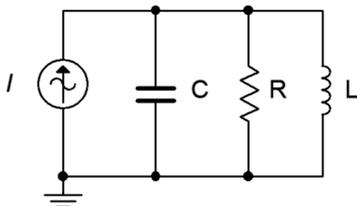

Figure 3.23
40. Determine a value for L such  $|X_C| = |X_L|$  for the circuit shown in Figure 3.23. The source frequency is 22 kHz,  $R = 18\ \text{k}\Omega$  and  $C = 5\ \text{nF}$ .
45. Assume you are troubleshooting a circuit like the one shown in Figure 3.23.  $I$  is a 10 mA peak sine at 2 kHz,  $R = 390\ \Omega$ ,  $C = 200\ \text{nF}$  and  $L = 25\ \text{mH}$ . The measured resistor voltage is a little under 2.5 volts. What is the likely culprit?
46. Given the circuit shown in Figure 3.23, find the values for  $C$  and  $L$  if the source is a sine wave at 1 kHz,  $R = 4\ \text{k}\Omega$ ,  $i_{\text{Source}} = 3\ \text{mA}$ ,  $i_R = 2\ \text{mA}$ ,  $i_L = 5\ \text{mA}$ ,
54. Following the idea presented in the previous problem, investigate the impedance as a function of frequency of the circuit shown in Figure 3.23. Use  $R = 1 \text{ k}$ ,  $C = 10 \text{ nF}$ , and  $L = 1 \text{ mH}$ . Run the simulation from 100 Hz to 10 MHz. Make sure to sketch your expected results first.